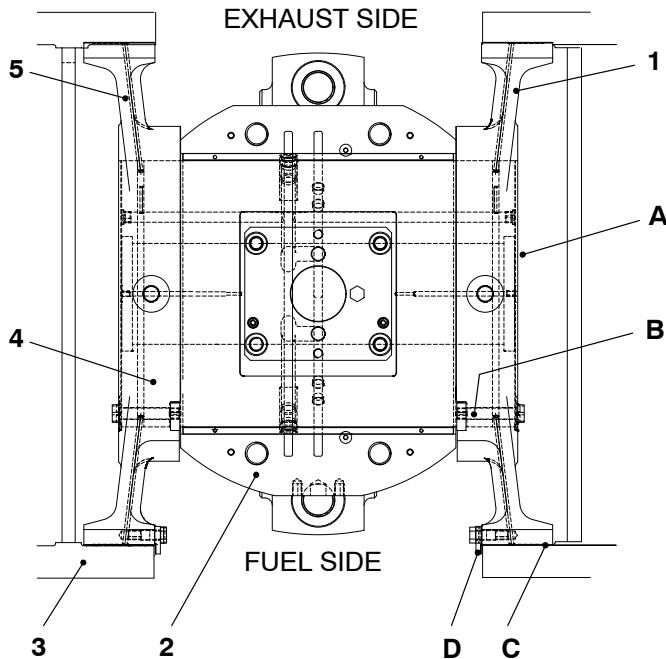
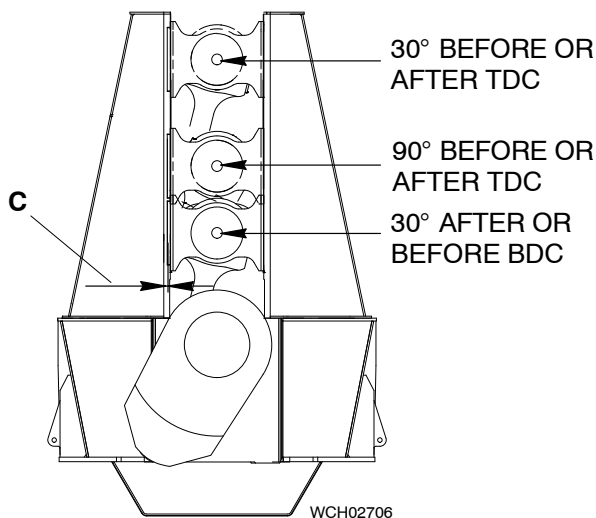

Fig. 1
Fig. 2
- 1) Measure and record the clearances shown in Fig. 1 and Fig. 2.
- 1) Make sure that the related crosshead pin (4) is in a position.
- 2) The guide shoes (1) and (5) must touch the guide ways (3) (on the fuel side or exhaust side).
- 3) Measure the clearance (C) between the guide shoe (1) and the guide way (3).
Note: The clearance (C) is applicable for the full length of the guide way (3) and measured at the position shown in Fig. 2.